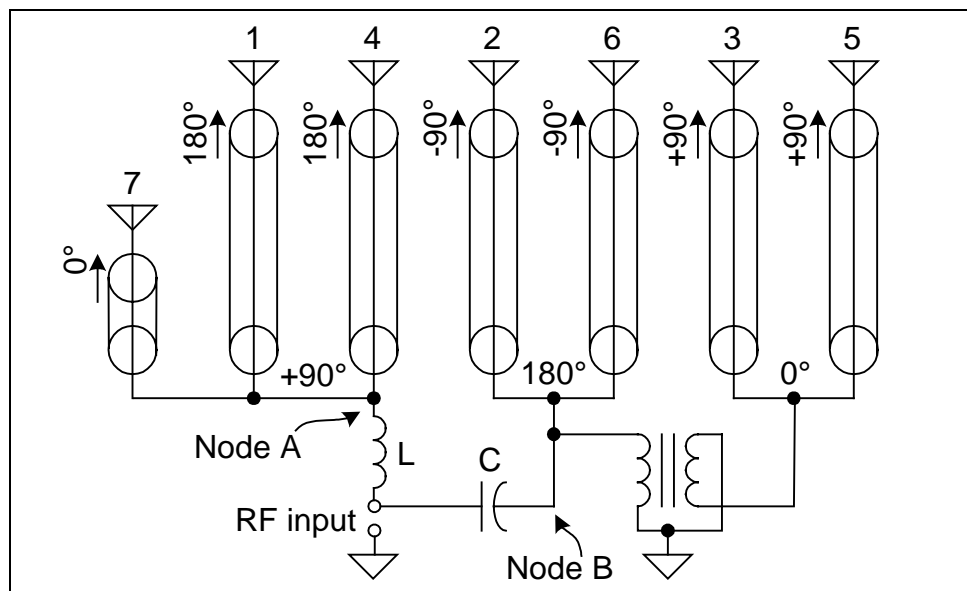

Figure 3. Configuration #1.
For configuration #1, firing in the direction of element 1, the lines are wired as in figure 3. The entire phasing network consists of one inductor, one capacitor, and one autotransformer. Nodes A and B are driven through an LC splitter, with values chosen so that voltages A and B have equal magnitudes, and the phase of B leads A by 90° . It can be shown that, for any set of load impedances, there is always a set of values for L and C that meet this condition. The lines to elements 1, 4, and 7 are driven in parallel. Similar to the reasoning for configuration #3, the outer elements (1 and 4) will be 180° degrees out of phase with the center element (7). Elements 2 and 6 are wired in parallel and elements 3 and 5 and also wired in parallel. The two pairs of elements are driven out of phase by an autotransformer. This results in the correct antenna current as shown. The transformer should be tightly coupled with low leakage inductance. The design constraints are similar to those of the autotransformer in a hybrid combiner. I constructed it, as those often are, by winding coax around a big toroid, and using the shield for one "winding", and the center conductor for the other "winding." I used special low impedance coax to get tighter coupling, but I probably could have gotten away with 50 ohm coax. This type of transformer physically looks just like a choke balun in its construction, but notice that the connections at the ends are different. The "phase" of the RF input is irrelevant since only the relative phase of the element currents matters.